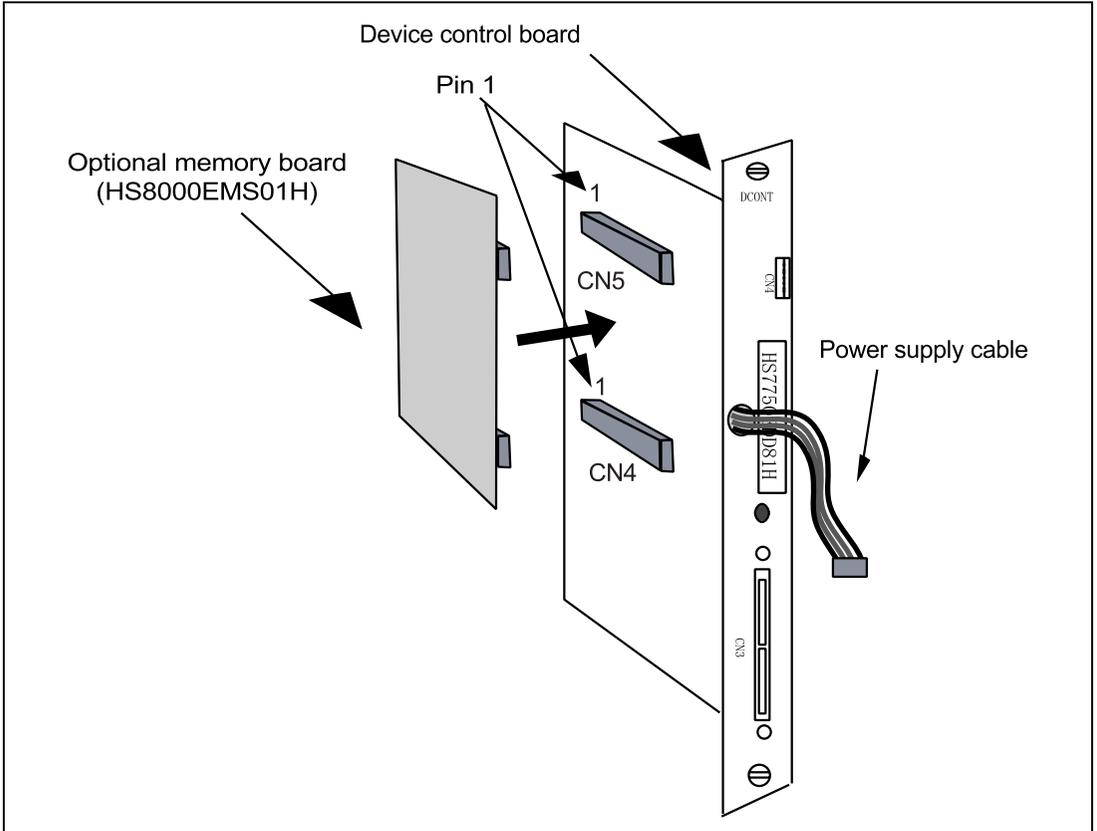

Figure 3.2 Connecting the Memory Board
4. When using the optional memory board, connect the optional memory board to the device control board as shown in figure 3.2. Then connect the device control board to the E8000S station. Confirm pin 1 of CN4 and CN5 and align pin 1 with the optional memory board.